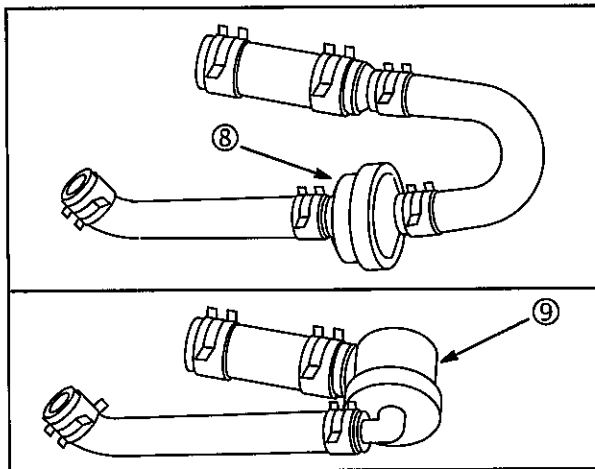

Fig. 14
Early (8) and current (9) style fuel filter assemblies for Vanguard™ engines with the 9 quart fuel tank shown in **Fig. 14**.